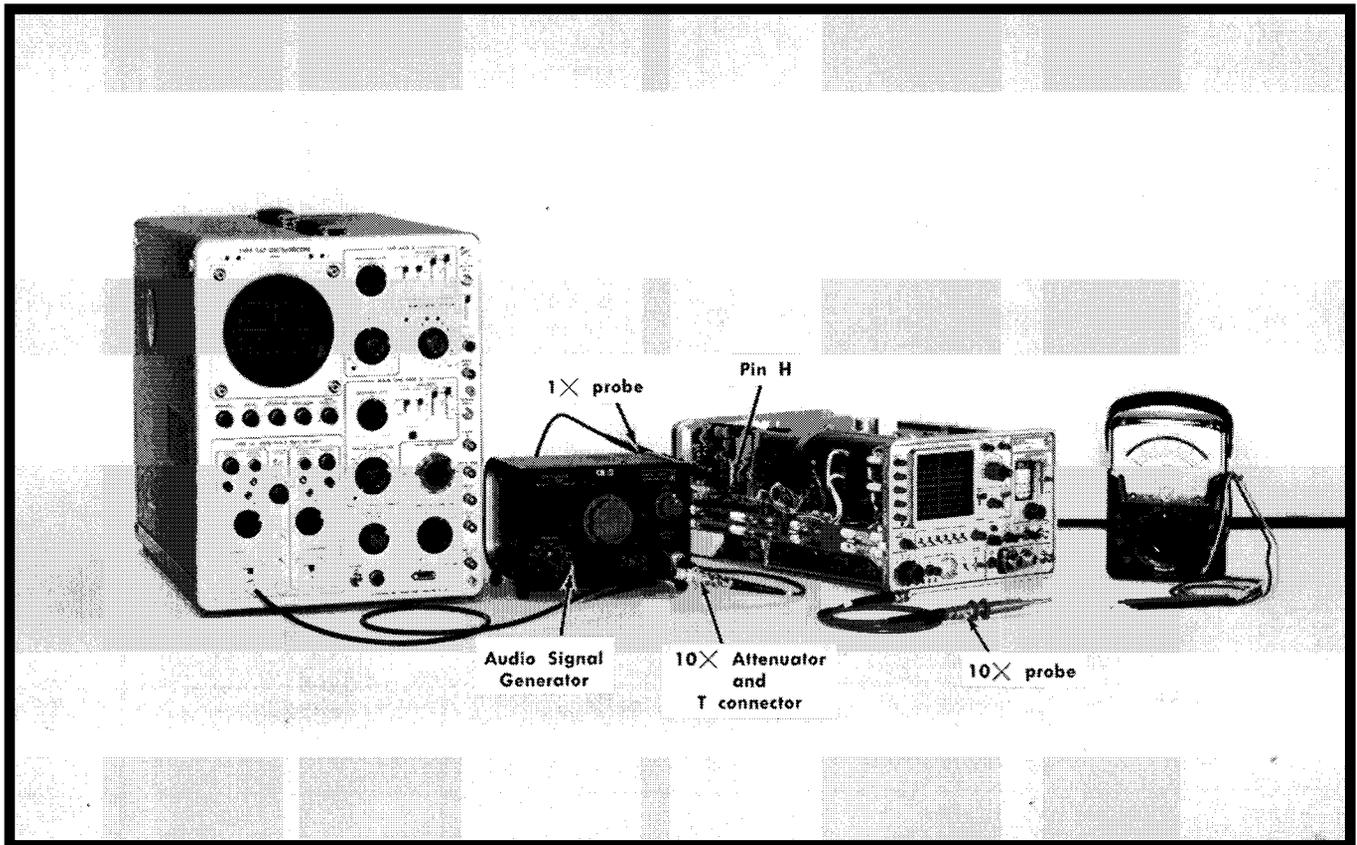

Fig. 6-11. Equipment setup for adjusting and checking triggering.
**9. Adjust Trigger Level Centering** ①
a. Equipment setup is shown in Fig. 6-11.